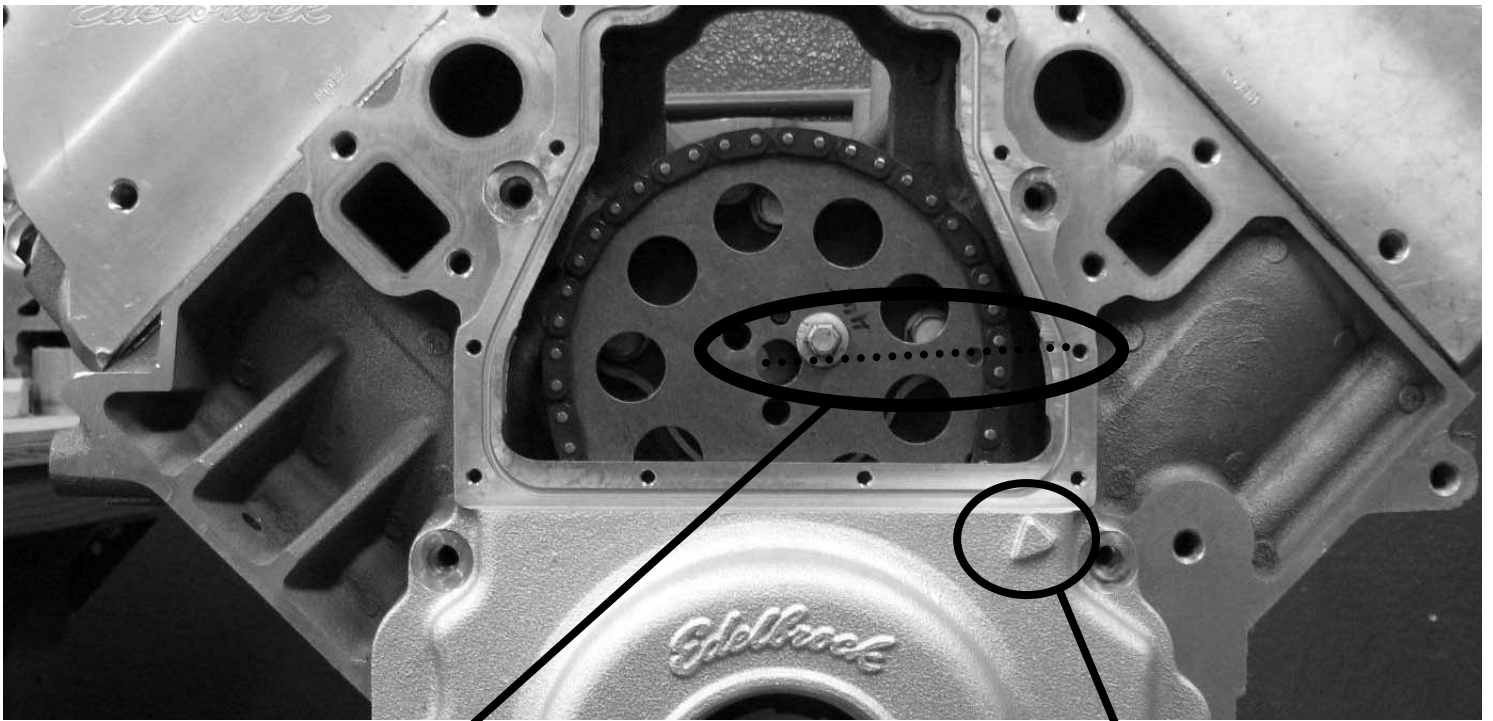

FIGURE 1
- Rotate the engine by hand until the timing mark on the cam gear is at the 3 o'clock position. A notch has been machined into the edge of the timing cover to illustrate this position. A straight edge held against the gear should pass through the center of the camshaft, the timing mark and the notch on the timing cover. (See Figure 1)
- It is recommended that you mark your harmonic balancer so that you can verify its position later. An indicator has been cast into the cover for this purpose. (See Figure 1)